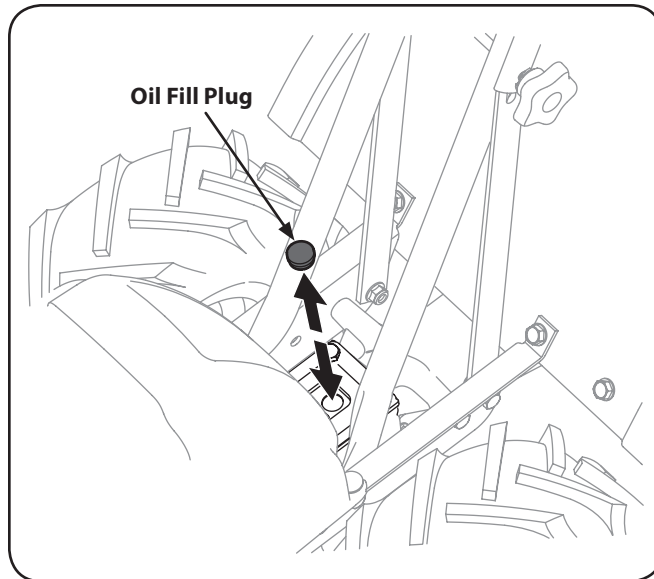

Figure 6-1
3. Clean the area around the oil fill plug. See Fig. 6-1.
4. Remove the oil fill plug from the transmission housing and look inside the oil fill hole to locate the main drive shaft situated below the hole. See Fig. 6-1.